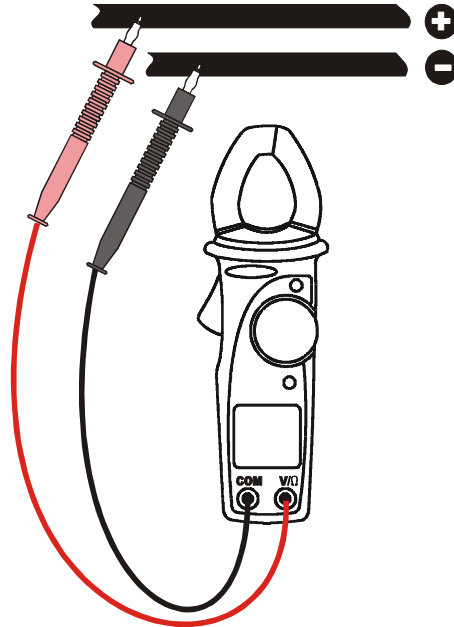

Fig. 5: Use of clamps for DC voltage measures
2. Insert the test leads into the jack, the red plug into V/ $\Omega$  jack, and black plug into COM jack, like showed in Fig. 5.
5. Press **R-H** key you can select manually the measurement ranges in cyclic order. Press **R-H** key 2 seconds at least to come back to AUTOMATIC range selection.